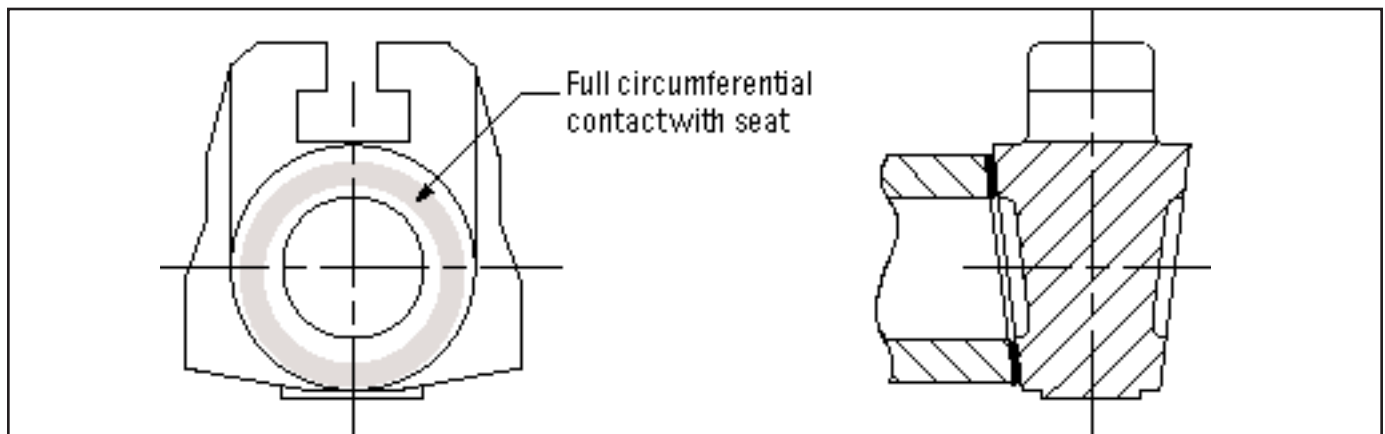

Figure 6.1A Wedge seating face
1. After the seating faces of the wedge and/or seats have been relapped and cleaned, you must check the wedge-seat fit. Place the marked-up side of the wedge together with marked-up side of the seat. Slowly lower the wedge into the body and find the correct mating point of the faces. Use bearing blue to check seat contact. Spread a light coating of bearing on wedge seating faces, slip wedge onto the stem. Lower stem/wedge together with the bonnet. Secure bonnet with studs/nuts. With the handwheel, close the valve firmly and than open partially, remove bonnet nuts and lift entire bonnet assembly. Care should be taken that the wedge does not slip off the stem "T" head. Check wedge seating face for 100% contact as shown in *Figure 6.1A*.
3. *Figure 6.1A* illustrates a wedge with a full seating circumference. This must be achieved when fitting a wedge.